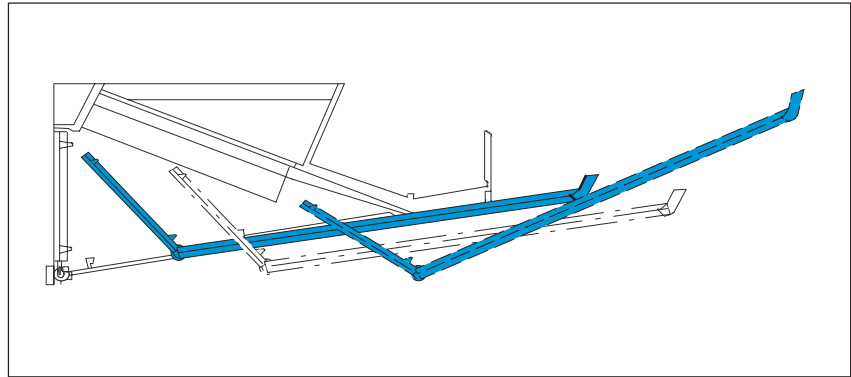

Figure 4-5 Removing the Base from the Fan Subassembly
2. Grasp the base with both hands; press it gently downwards and pull it fully out of the fan subassembly (see Figure 4-5).
3. Remove the base of the fan subassembly (see Figures 4-5 and 4-11).